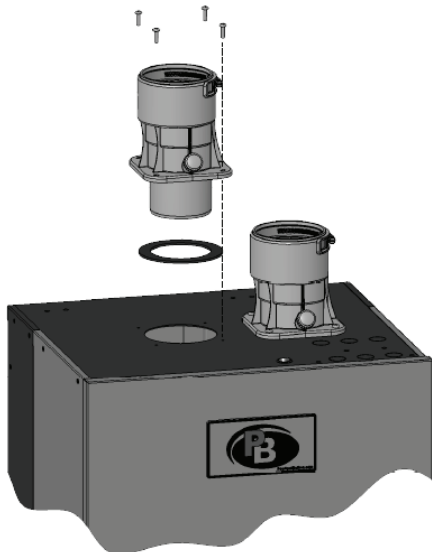

Figure 3.1: Exhaust and Air Intake Location and installation
4. The Exhaust Vent and Air Intake adapters are provided loose inside of the boiler cabinet and must be installed securely using the provided screws and gaskets. See Figure 3.1 below for proper orientation.